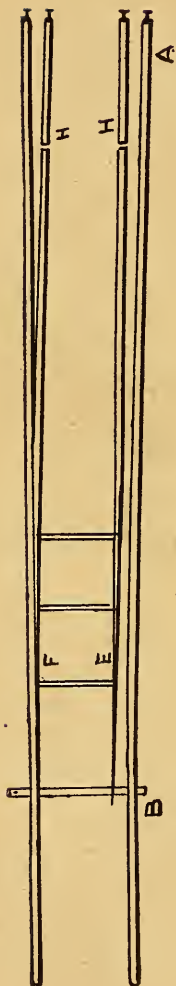
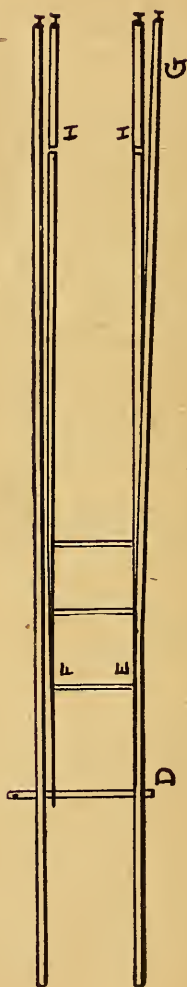

FIG. 45.
FIG. 46.
2. In order to have an unbroken bearing for car wheels on the track rails, the "split," or point switch was devised. Figs. 45 and 46 show these switches in their simplest form. Fig. 45 shows the switch set for side track. Fig. 46 shows it set for main track. The rails, AB and GD, called "stock rails," are continuous and spiked their full length, the point rails, E and